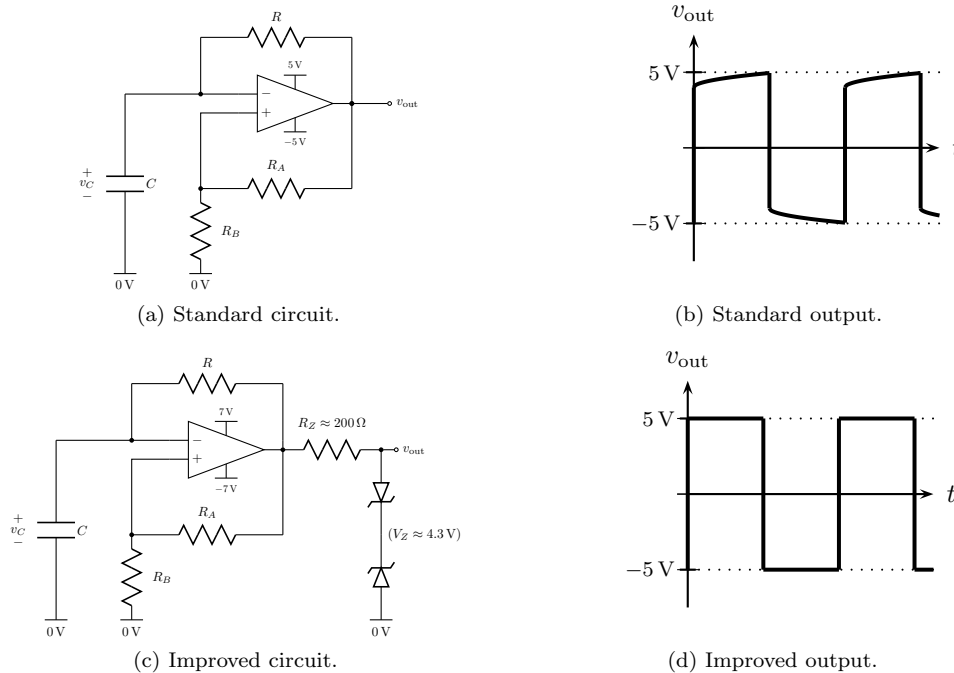

Figure FE-5.2: Relaxation oscillator variations.
You need to implement a square wave that oscillates from -5 V to 5 V . In the laboratory, you build Figure FE-5.2\(a\) using an LM741 operational amplifier, and you see the output shown in Figure FE-5.2\(b\). Although this output has sufficiently vertical edges, the top and bottom of each pulse is curved and never quite reaches the desired 5 V amplitude.
A colleague suggests that you increase your supply rails from $\pm 5\text{ V}$ to $\pm 7\text{ V}$ and add a resistor and two Zener diodes on your circuit output. In particular, she tells you to use Zener diodes with nominal breakdown voltage of 4.3 V and to put them in series with each other as in Figure FE-5.2\(c\)³. You make the changes she suggests, and the result (at room temperature) is the desired output in Figure FE-5.2\(d\).
11. Your boss tells you that the designed power supply rails can be no larger than $\pm 5\text{ V}$, and so the new design is not acceptable. You e-mail your old ECE 327 TA, and he suggests you use the original design from Figure FE-5.2\(a\) with an operational amplifier (or even a comparator) with a CMOS output, like the CA3160 operational amplifier. His suggestion also produces the desired output. Why? **(10 points)**
Your company has a surplus of LM741 operational amplifiers, and so your boss wants you to use those parts for your project. You realize that your company also has a surplus of CMOS inverters, like the CD4049. You implement the original circuit in Figure FE-5.2\(a\) with the original LM741 part; however, you follow the circuit with a CMOS inverter with $\pm 5\text{ V}$ supply rails, and the “inverted” output looks perfect.